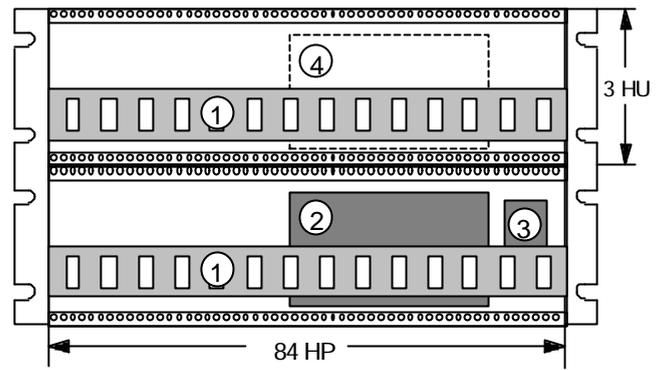

Fig. 1: A look inside the A-100 G rack system
The **rack system** (see Fig. 1) conforms to the 19" standard, and consists of two sections each 3U high, tied together by 6U side panels. It contains two system busses (1), the internal power supply (2), and the main electrical supply socket (3).
Module **front panels** are all 3U high. Their width is measured in HP (1 HP = 5.08 mm). The rack system has a **usable width** of **84 HP** (see Fig. 1). If the modules you install don't use up the entire 84 HP, then you must cover up the spaces with **blanking panels**.
The rack system power supply produces voltages of +12 V and -12 V and can put out a **maximum current of 650 mA**. In setting up a modular system, make sure that the total current required by all the modules doesn't exceed this maximum. If it does, then a second power supply (see Accessories) will need to be installed (at position 4, Fig.1). As a rule, though, one power supply should be sufficient for a rack system.